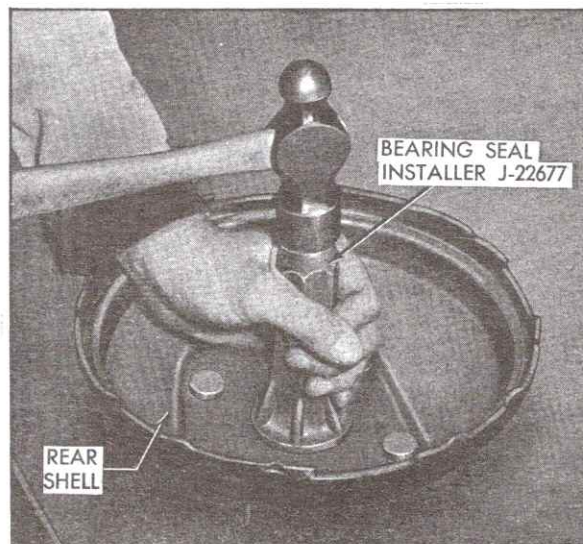

Fig. 5-24 Installing Bearing Seal in Rear Shell
1. Place rear shell on bench with mounting studs down. Place new bearing seal on Bearing Seal Installer, J-22677, with plastic side of seal against installer and drive seal into shell until seal is seated in shell, Fig. 5-24.